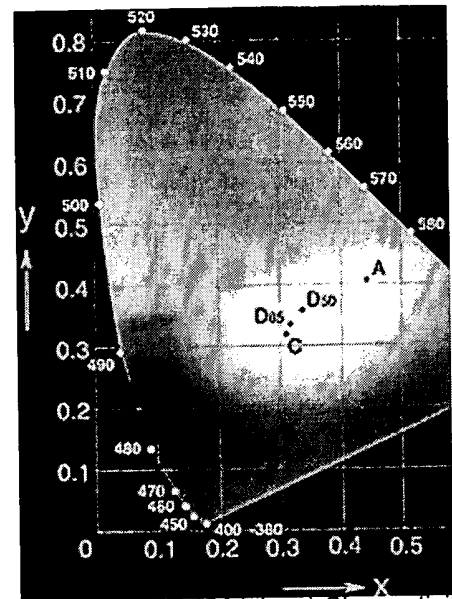

Figure 9 / CIE 1931 (x, y) Chromaticit
As a result, when the 1931 CIE standard observer was established, the commission recommended using the chromaticity coordinates  $xyz$ . These coordinates are used to form the chromaticity diagram in Figure 9. The notation  $Yxy$  specifies colors by identifying value (Y) and the color as viewed in the chromaticity diagram ( $x,y$ ).